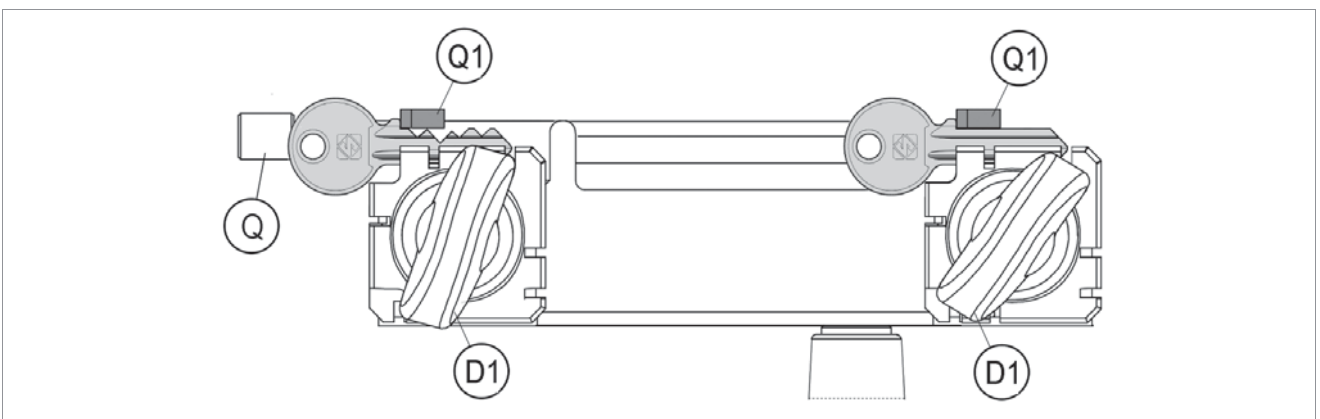

Fig. 27
- b) the key stop is resting against the calibration tab (Q1) (Fig. 27);
- 3) Lower the gauge rod by turning knob (Q).